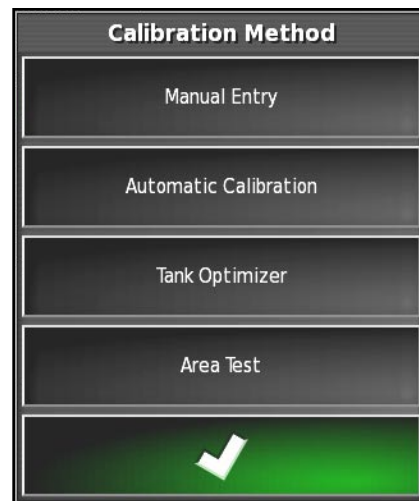
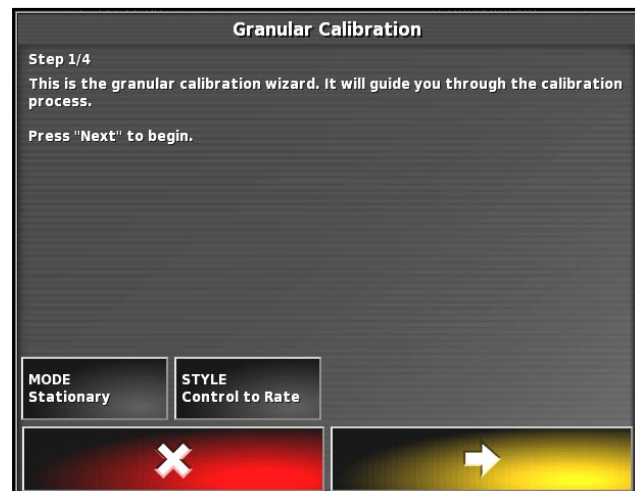

Figure 8.30 - Calibration Method Window
Figure 8.31 - Calibration Wizard
1. On the Calibration Method window, refer *Figure 8.30*, select Automatic Calibration. Granular calibration wizard will start up. Refer to *Figure 8.31*.